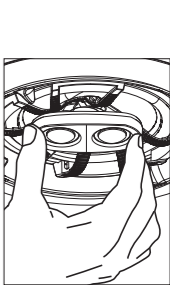

Figure 4. Tweeter adjustment.
7. Direct the tweeters. The tweeters are directed by gently pressing on the outer edge of the tweeter housing. It will move in any direction. For low volume background listening, create more reflections and thus more ambiance by directing the tweeters towards the sidewalls. (See **Figure 4**)